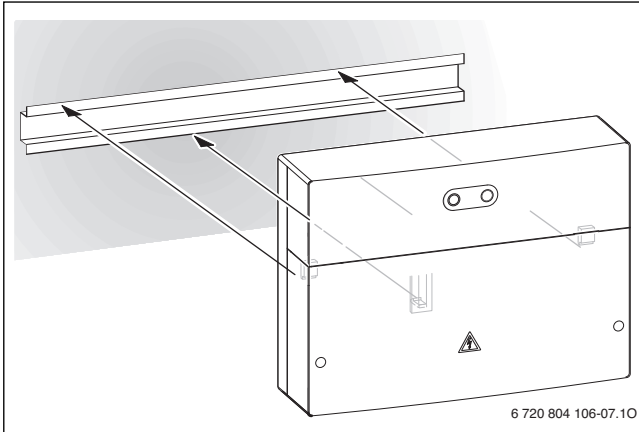

Fig. 7 DIN rail mounting
- ▶ Mount the module to a DIN rail (→ fig. 7).